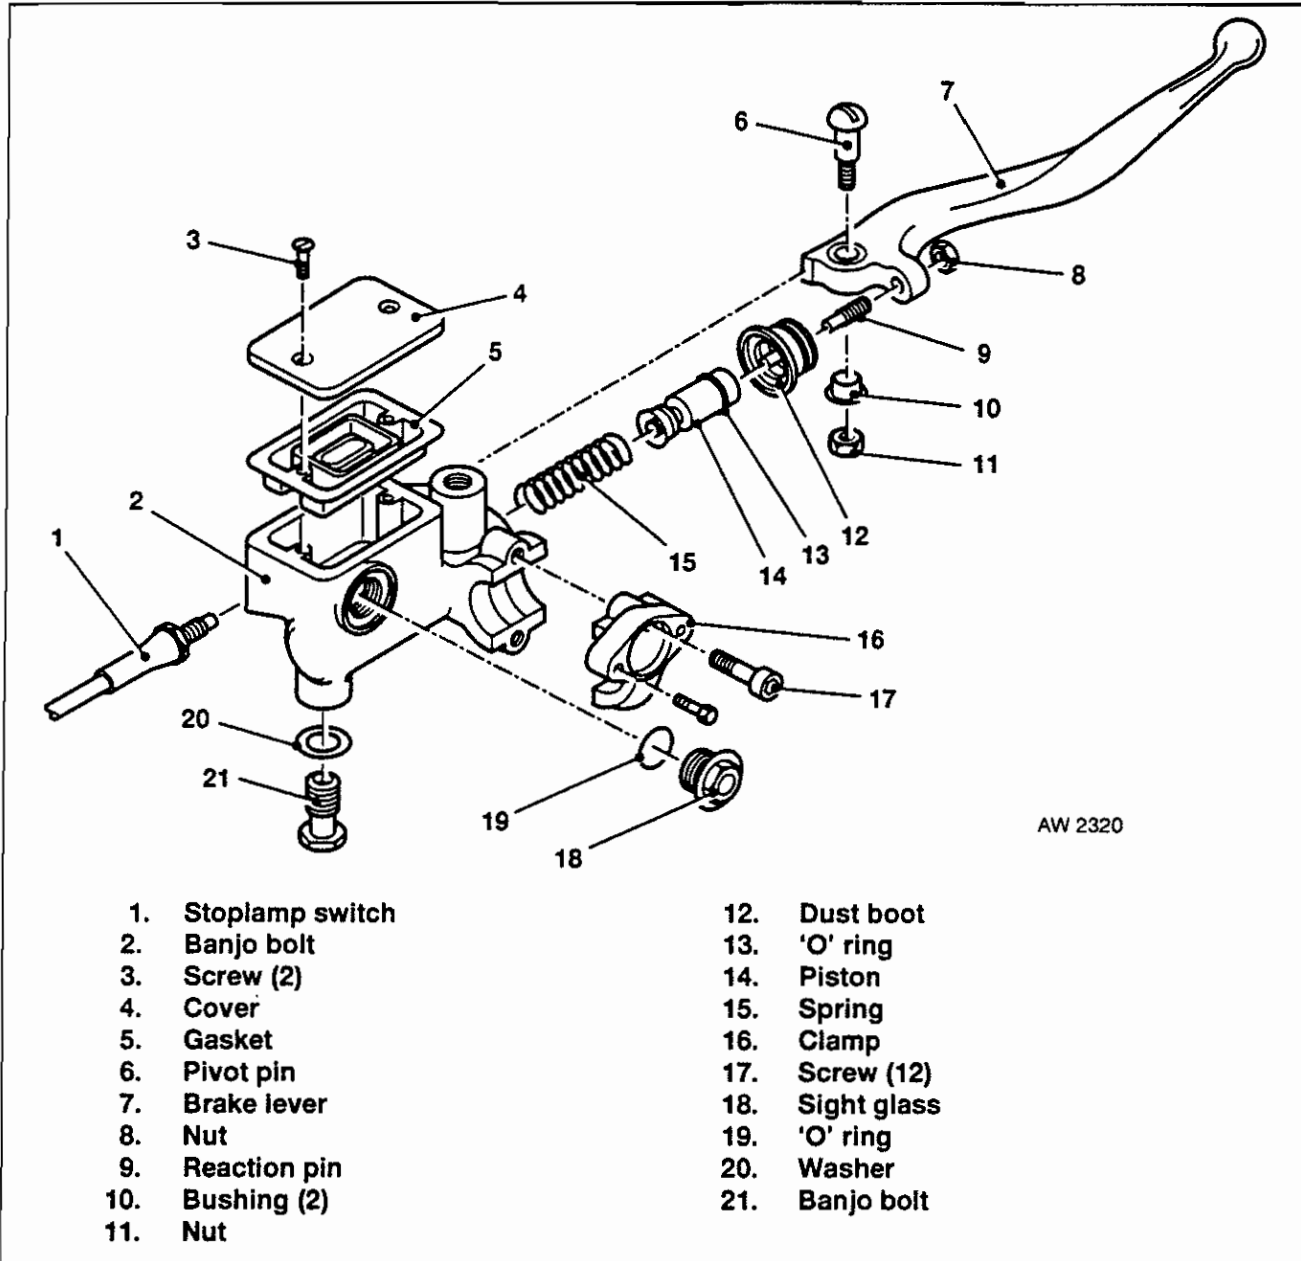
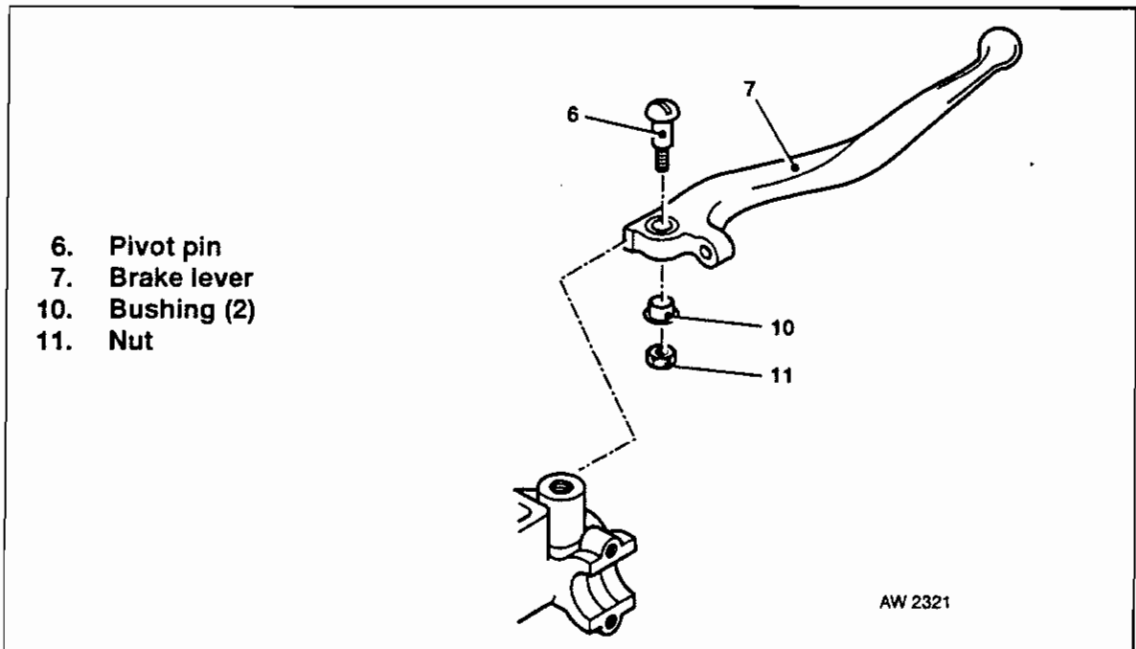

Fig 12.5 Front Master Cylinder
Fig 12.6 Front Brake Hand Lever and Reservoir
Fig 12.5 refers.
- a. Inspect piston (14), 'O' ring (13), dust boot (12) and pivot pin (6) for wear, softening or enlarging. Replace if necessary.
- b. Examine the cylinder walls for scratches and grooves. If damaged, replace master cylinder/reservoir (2).
- c. The gasket (5) should be replaced if torn or punctured.
- b. Fig 12.5 refers. Coat 'O' ring (19) with DOT 3 hydraulic brake fluid and install sight glass (18) and 'O' ring, if removed.
- c. Install spring (15). Assemble piston (14) with 'O' ring (13) and dust boot (12).
- d. Fig 12.6 refers. Lightly coat pivot pin (6) and bushings (10) with Loctite Anti-Seize. Assemble the brake lever (7) to the master cylinder/reservoir assembly (2) using pivot pin and bushings. Check front brake lever for proper operation. Wipe off excess Anti-Seize.
- e. Fig 12.5 refers. Install master cylinder to handlebar by installing clamp (16) and screws (17). Tighten screws to 70-80 in/lbs torque.